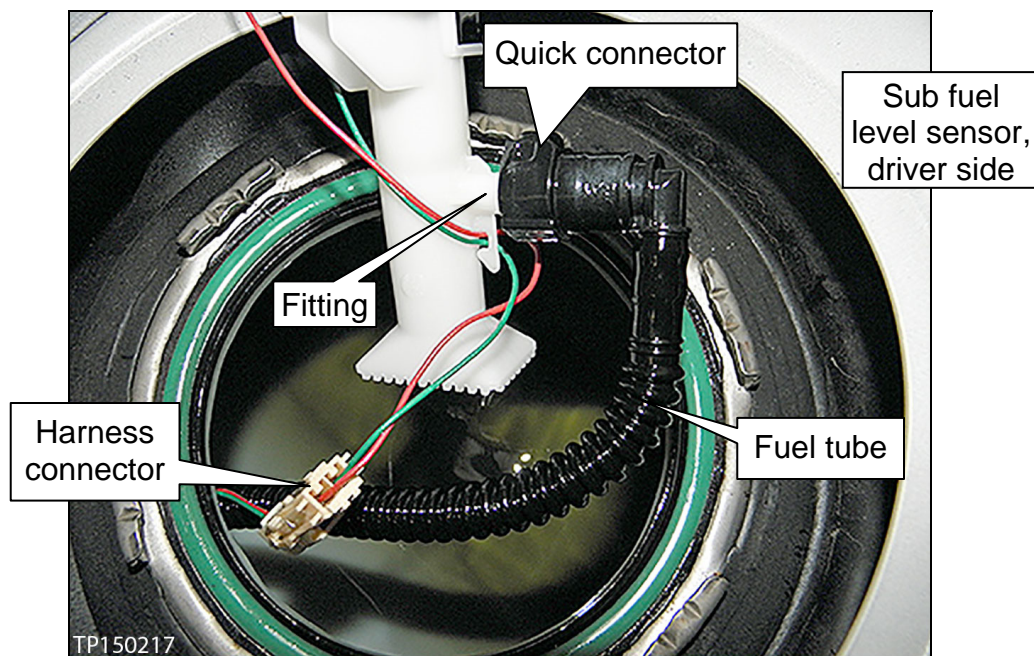

Figure 5
9. Disconnect the harness connector (see Figure 5).
10. Disconnect the fuel tube (internal fuel line). See Figure 5.